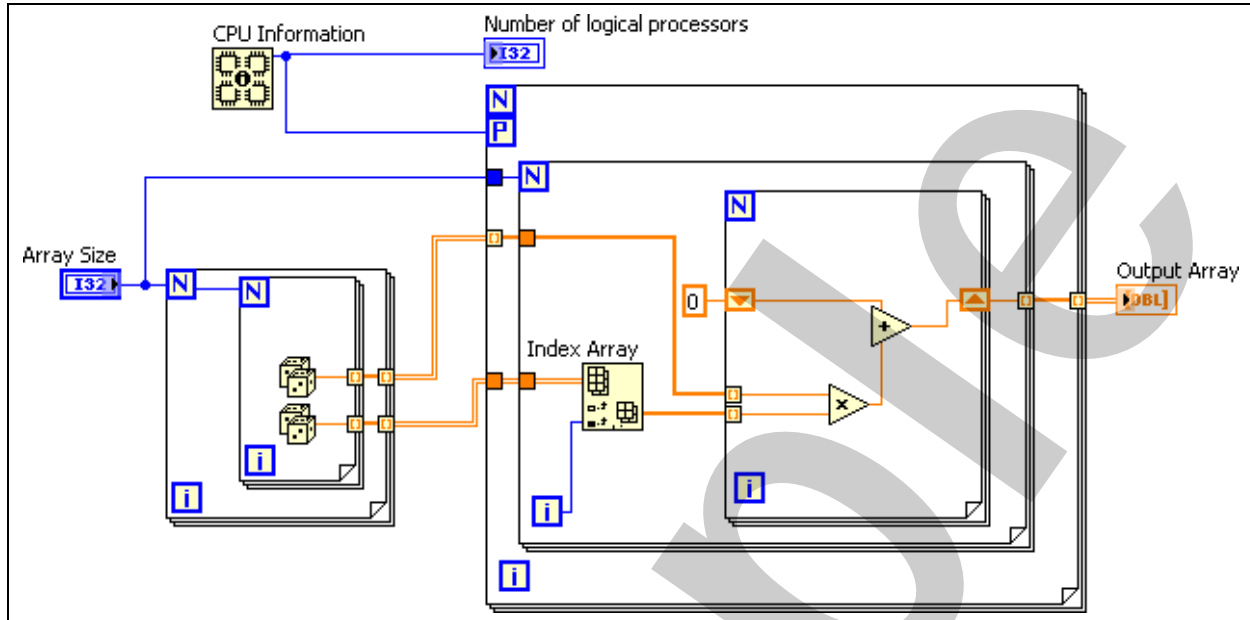

Figure 2-3. CPU Info with Parallel For Loop VI – Completed Block Diagram
- Complete the block diagram, as shown in Figure 2-3, using the following items: